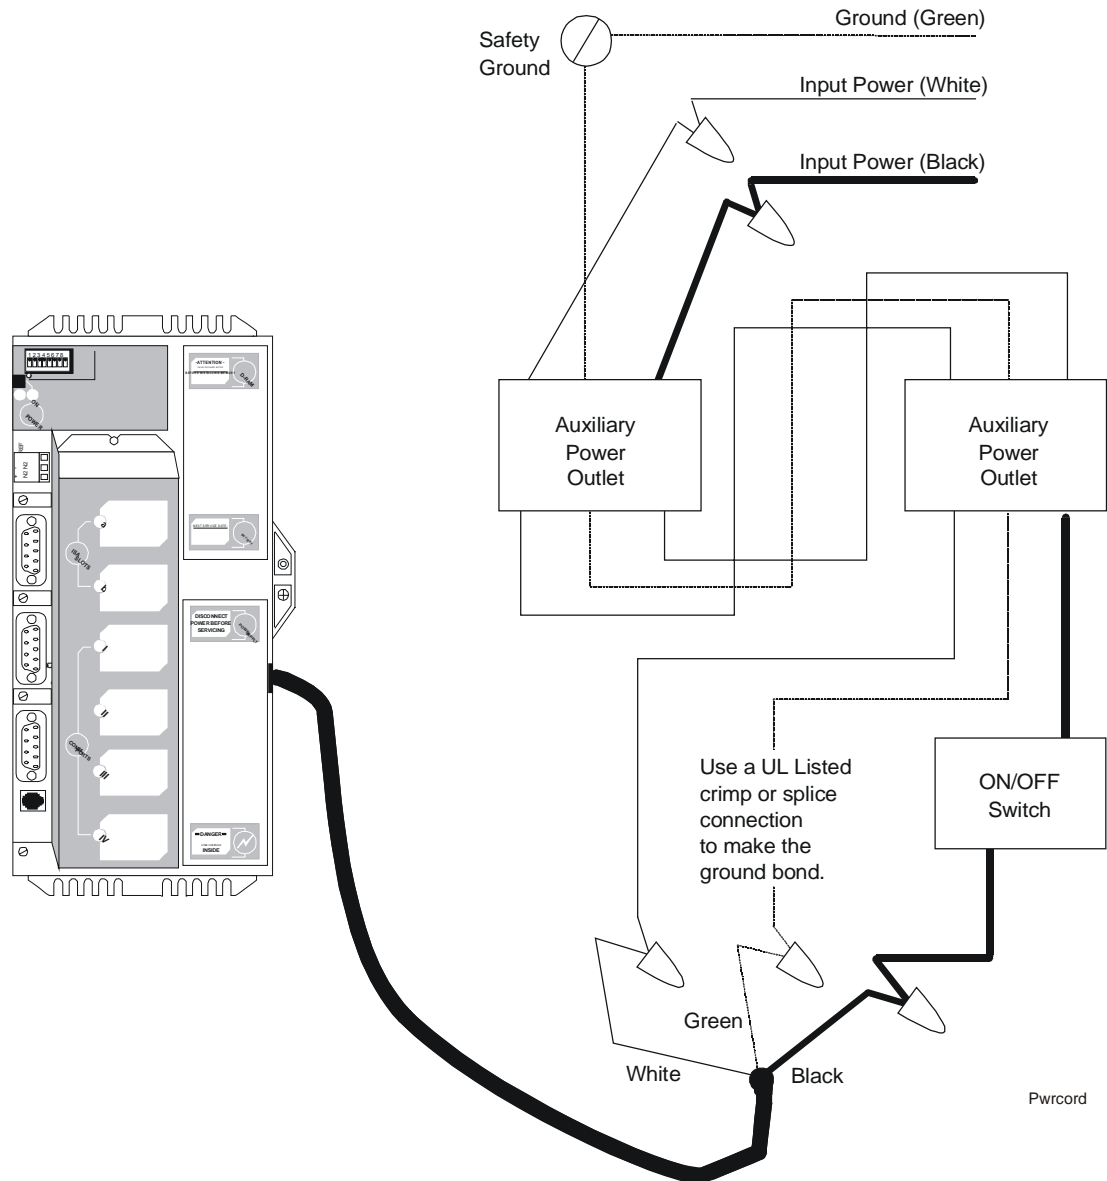

Figure 4: Wiring the Power Cord
- Figure 4 shows how to wire the NCM power cord into the power entry box in the EWC22. Once this wiring is complete, the switch on the power entry box controls power to the NCM.
Mount the NCM in a suitable enclosure near its line voltage connections. The unit is designed to fit into a variety of enclosures. Figure 2 shows the overall mounting dimensions. Figure 3 shows the NCM mounted in an EWC22. Figure 4 shows how to wire the NCM power cord into the power entry box in the EWC22. For more information on the EWC22, see the *Universal Packaging Module Technical Bulletin (LIT-6363070)*.
Figure 4 shows how to wire the NCM power cord into the power entry box in the EWC22. Once this wiring is complete, the switch on the power entry box controls power to the NCM.